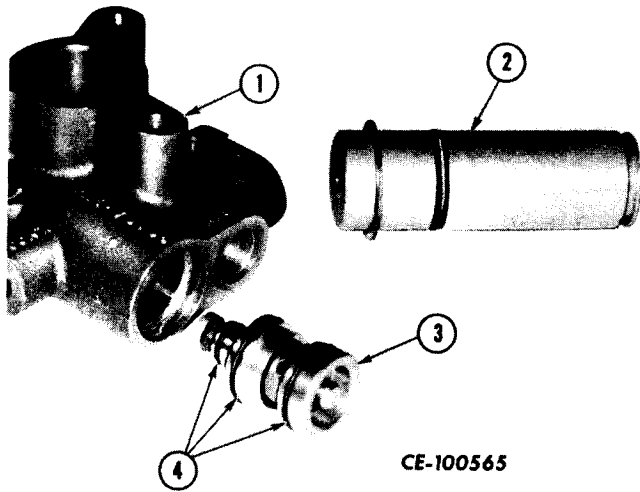

Figure 13-47
Install new "O" rings (4, Fig. 13-47) on valve (3) and carefully insert into bore of section (1). Install new seal ring on plunger (2) and slide plunger into section, from bottom up. Replace plunger snap ring if required.